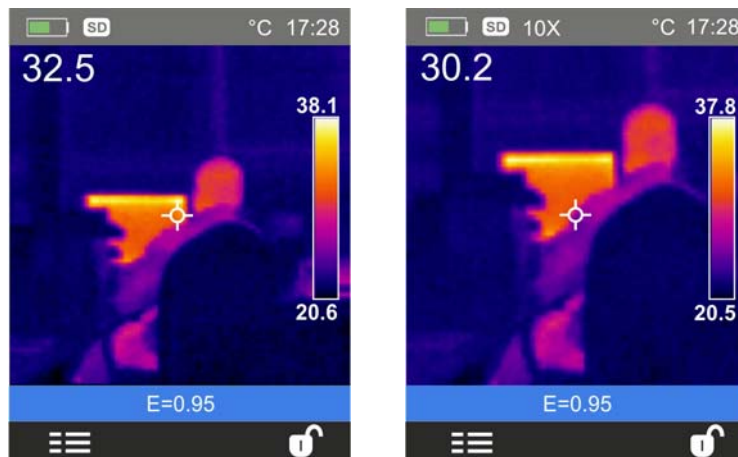

Fig. 6: Setting image zoom
1. Frame the object to be tested (see Fig. 6 – Left side) and press the key \oplus as many times as you want to zoom the image. Each pressing increases the size of the image by 10% with respect to the original. The instrument show the zoom value on the top side of the display (see Fig. 6 – Right side relevant to x10 zoom). Possible options are: **1x ÷ 32x**